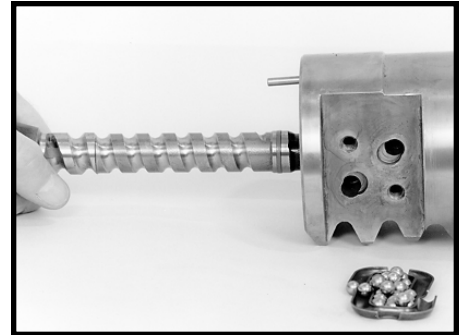

Figure 75
36. Remove the worm shaft/input shaft (17) from the rack piston (31). SEE FIGURE 75.